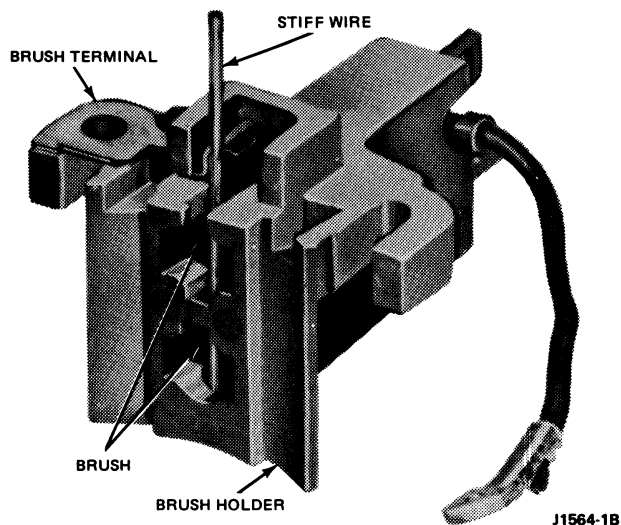

FIG. 7 Brush Holder Assembly
5. Position the brush terminal on the brush holder (Fig. 7). Install the springs and brushes in the brush holder, and insert a piece of stiff wire to hold the brushes in place (Fig. 7).
1. Position the brush holder to the rear housing, inserting the wire used to retract the brushes through the hole in the rear housing (Fig. 7).
1. Insert a piece of wire through the hole in the rear housing to hold the springs and brushes in the retracted position (Fig. 7).